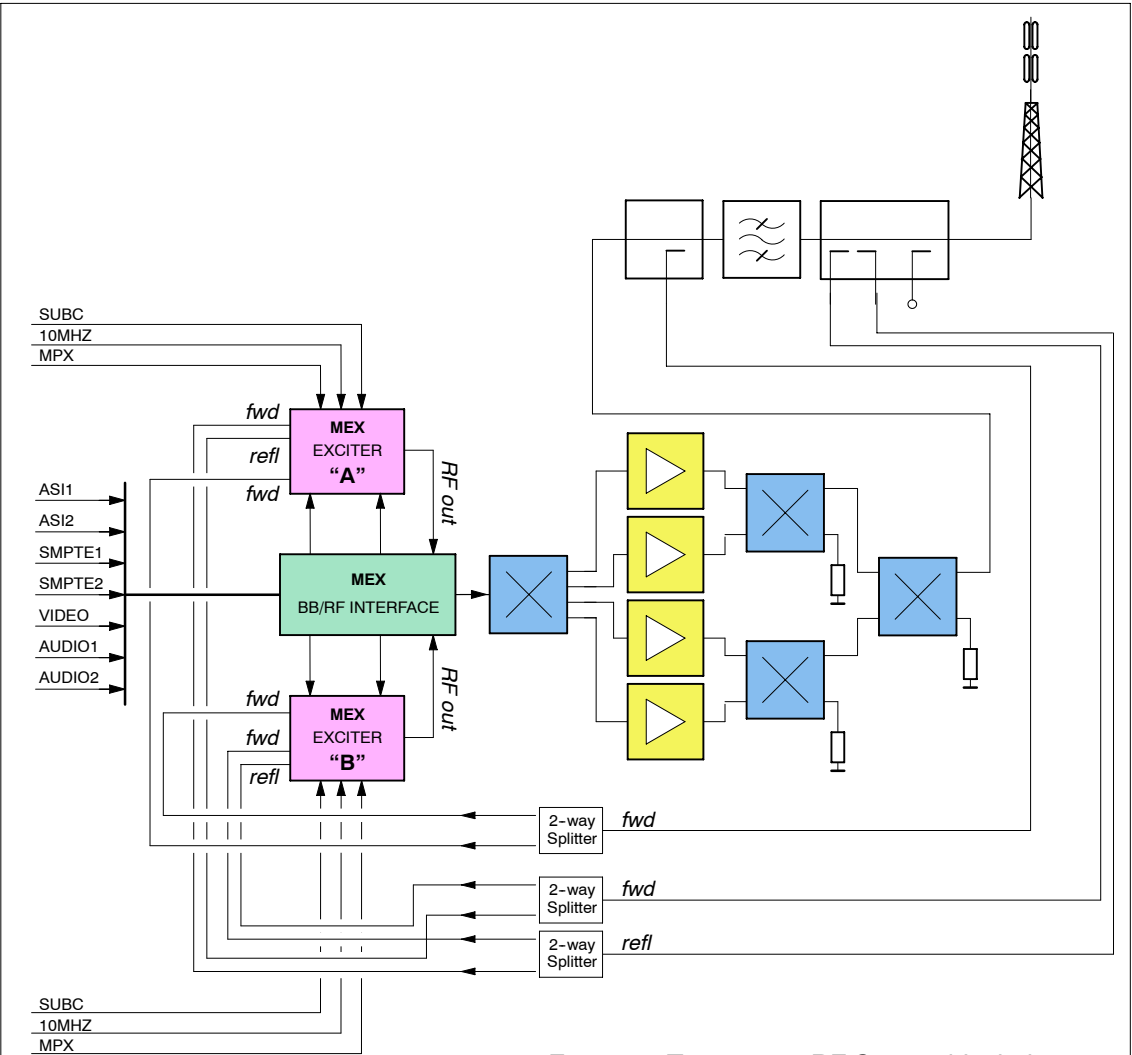

Fig. 1.2 - Transmitter RF Section block diagram
- Fig. 1.2 block diagram of transmitter RF section;